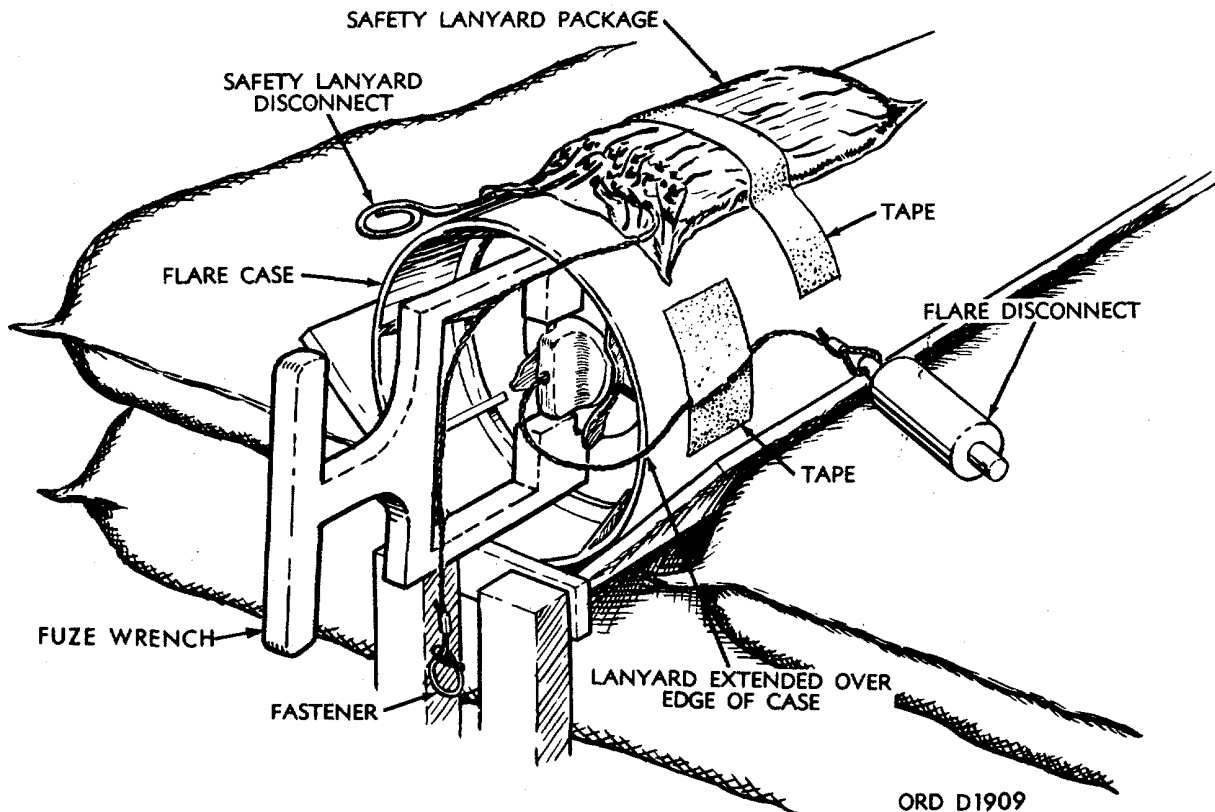

Figure 3-8. Fuze wrench in position.
2. Place fuze wrench between raised grips on yellow fuze setting dial (fig. 3-8); depress dial, turn clockwise to desired setting, and release. (Setting may vary from 5 to 30 seconds, but in 5 second increments only.)
2. Place fuze wrench between raised finger grips on ejection fuze setting (yellow) dial (fig. 3-8), depress dial, turn clockwise to desired setting, and release. Setting may vary from 5 to 30 seconds but in 5-second intervals only, as marked on dial.